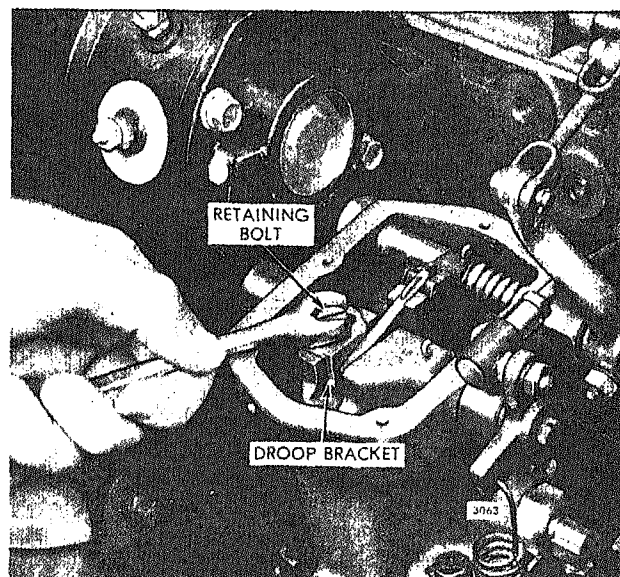

Fig. 4 - Adjusting Droop Bracket
4. Refer to Fig. 4 and loosen the droop adjusting bolt. Move the droop bracket so that the bolt is midway between the ends of the slot in the bracket. Tighten the bolt.